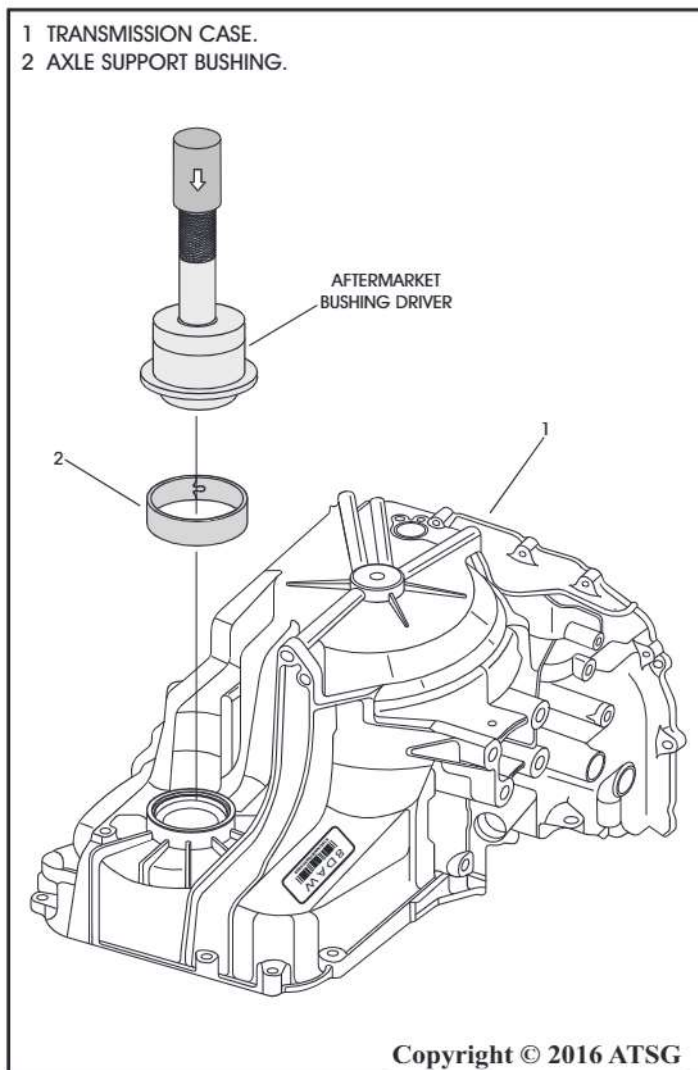

Figure 143
13. Utilizing an aftermarket bushing driver set, install a new aftermarket bushing as shown in Figure 143.